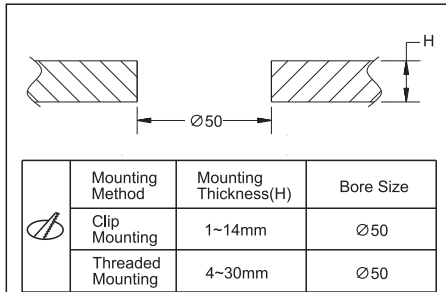

Figure 1
1. Fixture Installation Thickness & Cut-out Dimensions.(Figure1)